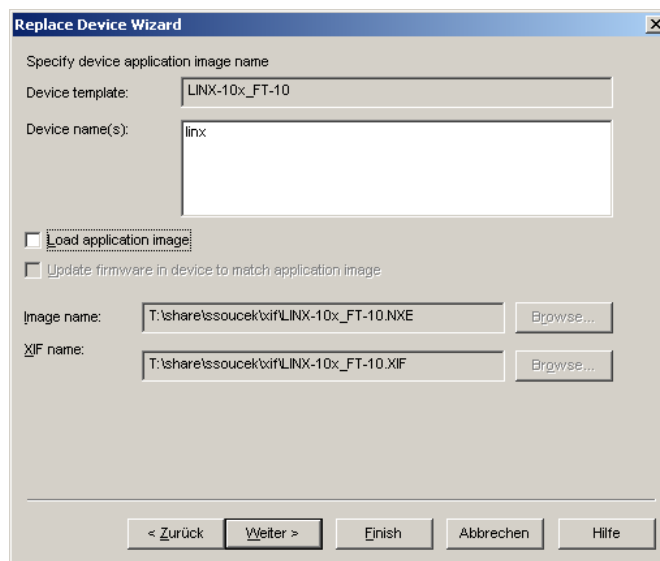

Figure 72: Click Next without loading an application image.
4. In the following window shown in Figure 72 click **Next**.